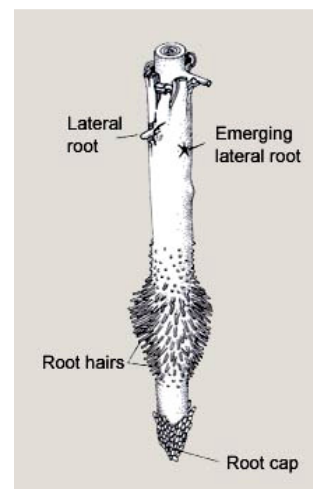

Figure 19.
**ROOT CAP** is a cap-shaped structure at the ends (tips) of the roots. It covers and protects the apical meristem (the actively growing region) of the root. Refer to Figure 19.
**ROOT HAIRS** are very thin, hair-like roots that are extensions of the root's epidermis. Root hairs have a large surface area and absorb water and minerals for the plant. Refer to Figure 19.
**ROOT TIP** is the tip of the root and contains the root cap and the apical meristem (the actively growing region). *Refer to Figure 19.*